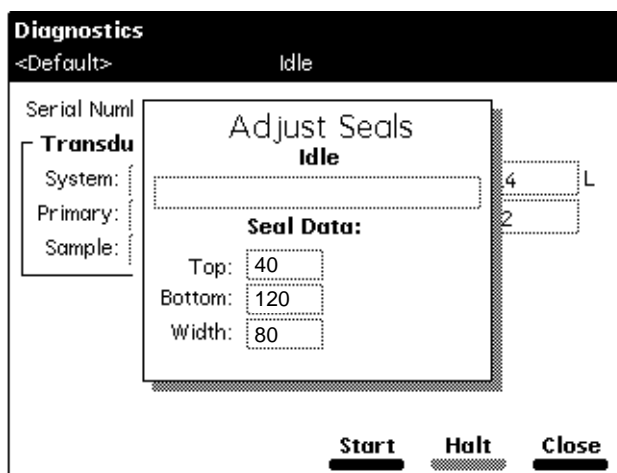

Figure 8-7 Adjust Seals Screen
- Press the **Adjust Seals** screen key in the Diagnostics screen. The Adjust Seals dialog box appears (Figure 8-7).